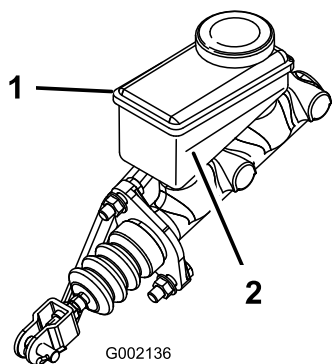

Figure 63
5. Look at the outline of the fluid level at the side of the reservoir (Figure 63).
- B. Add DOT 3 brake fluid to the reservoir until the fluid level is above the Minimum line (Figure 63).